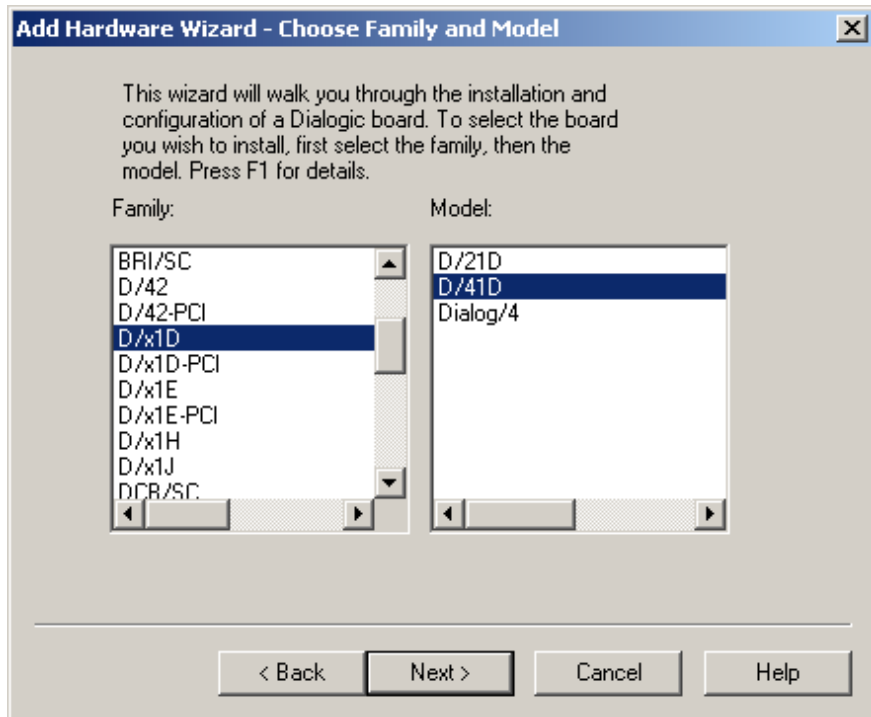

Figure 9. Add Hardware Wizard Step 1
2. At the first **Add Hardware** screen (Figure 9), select the board you want to install, then click **Next**.